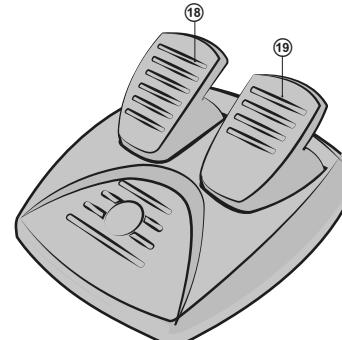

Fig. 3. Foot pedal unit
- Connect pedal unit to the device (Fig. 3) via cable ⑫ of the pedal unit to RJ-11 jack ⑯, then connect USB cable ⑬ of the device to the USB port of the computer.